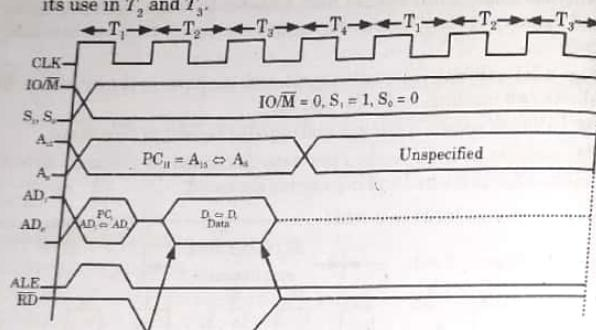
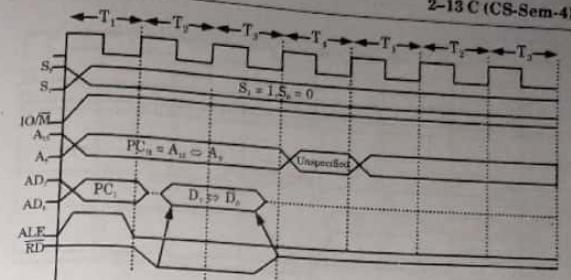

Fig. 2.8.1. Memory read timing diagram.
Fig. 2.8.2. I/O read timing diagram.
2. The timing diagram for  $\overline{IO/M}$  read are shown in Fig. 2.8.1 and Fig. 2.8.2.  $A_{15} \leftrightarrow A_8$  remains valid in  $T_1, T_2$  and  $T_3$  i.e., duration of the bus cycle, but  $AD_7 \leftrightarrow AD_0$  remains valid only in  $T_1$ .